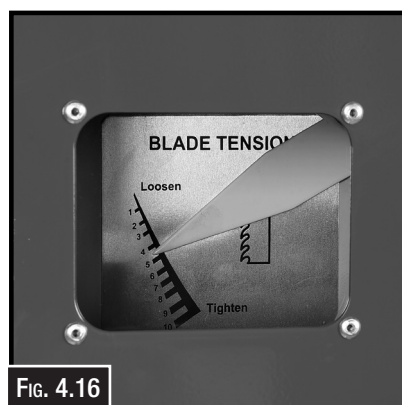

FIG. 4.16
8. Note what the tension gauge reads. Use that as a guide for tensioning that specific blade in the future. (Fig. 4.16)